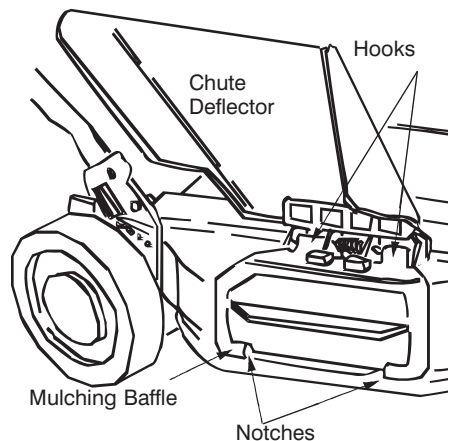

Figure 10
- Lift the chute deflector on the mower. Slide the notches in the bottom of the mulching baffle over the lip of the discharge opening. See Figure 10.